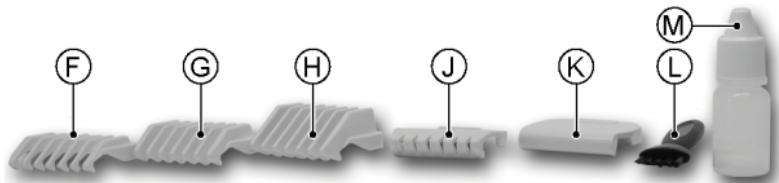

Figure 1: Clipper parts and accessories.
1. Switch the clippers off by pushing the *On/Off* switch (Figure 1, B) downwards.
3. Insert the power pack (Figure 1, E) in the mains power socket. The charge indicator light (Figure 1, C) comes on.
Remove the cutter cover (Figure 1, K) and switch the clippers on by pushing the On/Off switch (Figure 1, B) upwards.
- After 30 minutes of use, switch the clippers off by pushing the On/Off switch (Figure 1, B) downwards.
- Switch the clippers off by pushing the On/Off switch (Figure 1, B) downwards.